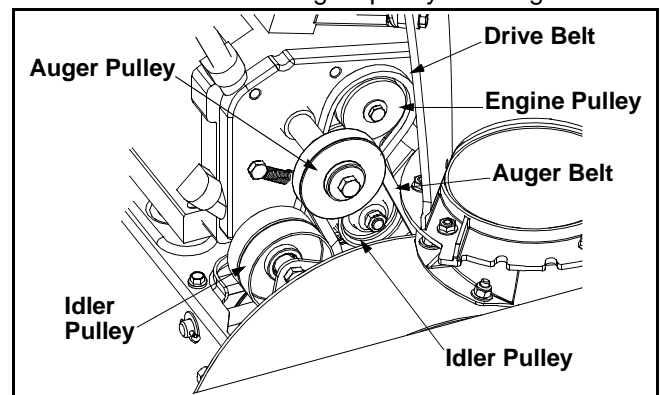

Figure 17
- Roll the belt off the engine pulley. See Figure 17.
- Pull idler pulley up and lift belt off engine pulley and friction wheel disc. See Figure 17.